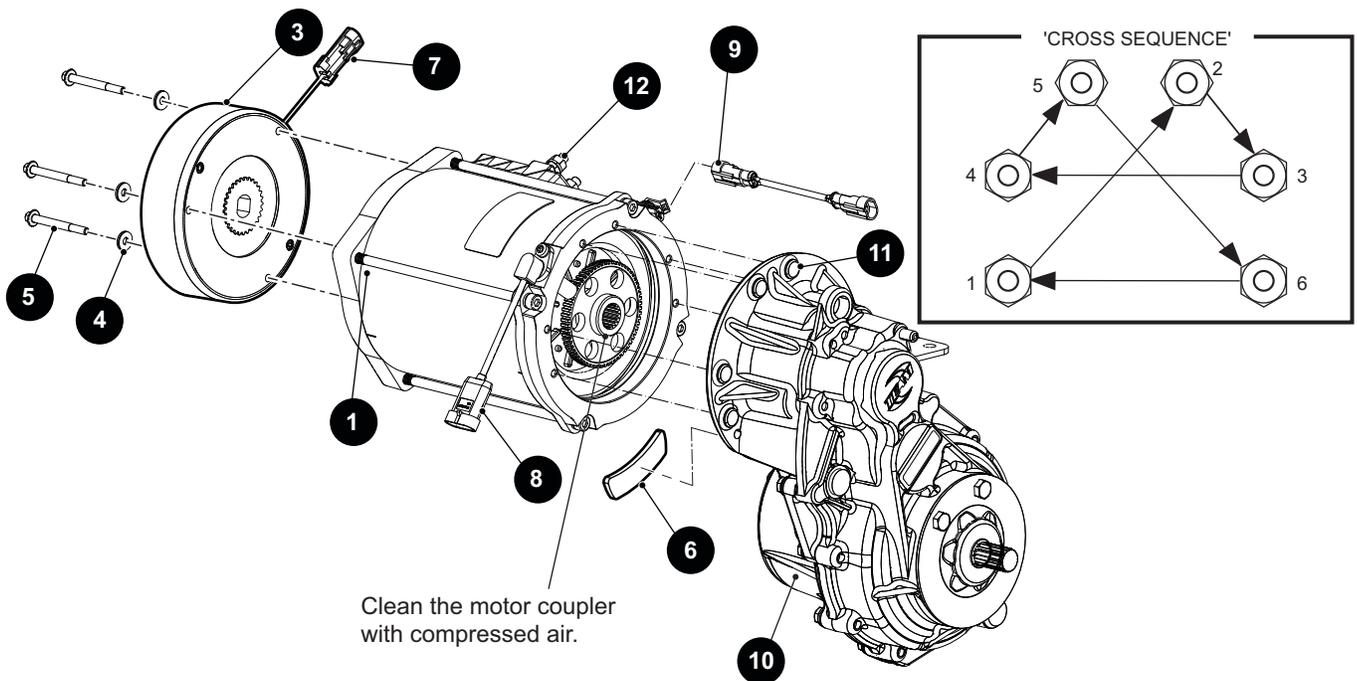

Fig. 4 Front Motor Components
3. Disconnect the motor wires from terminals U, V, and W (12) (Ref. Fig. 4) (Ref. Fig. 5).
4. Remove the connectors at the speed sensor (8), temperature sensor (9), and motor brake (7) (Ref. Fig. 4).
5. Remove the six bolts (11) that secure the motor (1) to the axle housing (10).
7. Remove the bolts (5), washers (4) and motor brake (3) from the motor (1).
3. Place the differential gasket (6), in the groove provided in the differential (10). Finger tighten the bolts (11) in a 'cross sequence' (Ref. Fig. 4), then tighten to 25 in. lbs. (2.82 Nm) increments of torque using the same 'cross sequence' pattern.
4. Reconnect the temperature sensor (9), speed sensor (8), and motor brake (7) wiring harnesses.
5. Reconnect the U, V, and W terminals (12) (Ref. Fig. 4) (Ref. Fig. 5).